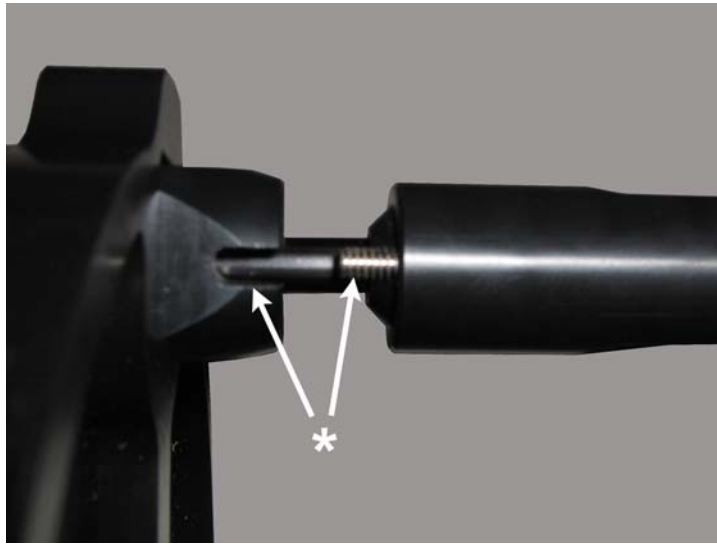
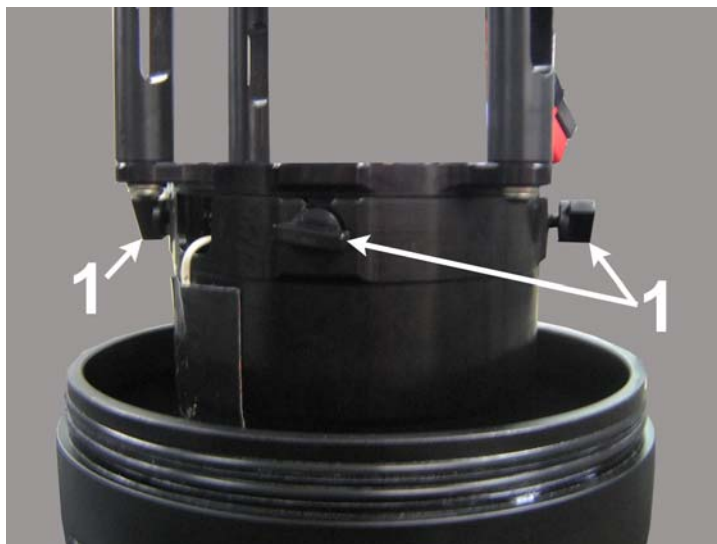

Fig. 2.1
Fig. 2.2
The battery housing is attached to the Battery Mounting Posts using wing nuts to secure the posts to the assembly. The mounts are keyed so they will only assemble in one orientation (see * in Fig. 2.1). Connect the lower end of the Mounts to the lower housing matching the index marks together and tighten the four locking knobs (see item 1 in fig 2.2). Then connect the battery terminals if the vehicle is to be used. When storing the vehicle the battery should be disconnected.